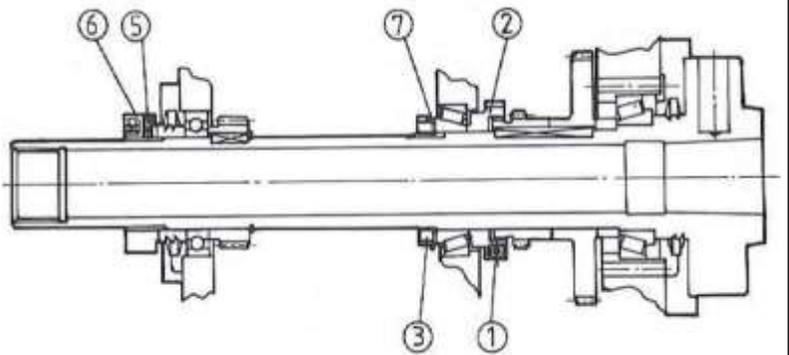

figure 47
2. Position the High / Low gear shift lever (15) to NEUTRAL. (Spindle will be free to rotate)
3. Loosen the “gear positioning nut” (#2) (fig. 47) at least one full turn. Requires first loosening the lock screw on castellated nut so nut can turn.
5. Re-tighten gear positioning nut (#2) (fig. 47) to prevent side float of spindle gears. When this nut is fully tightened, find the locking screw (#1) on the castellated nut and tighten to prevent it from working loose.